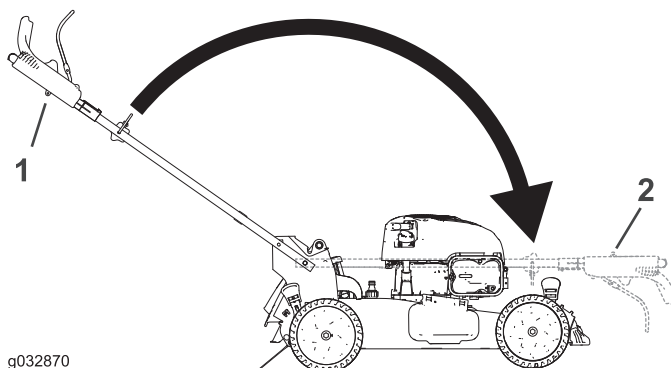

Figure 26
2. Fold the handle by rotating it forward (Figure 26).